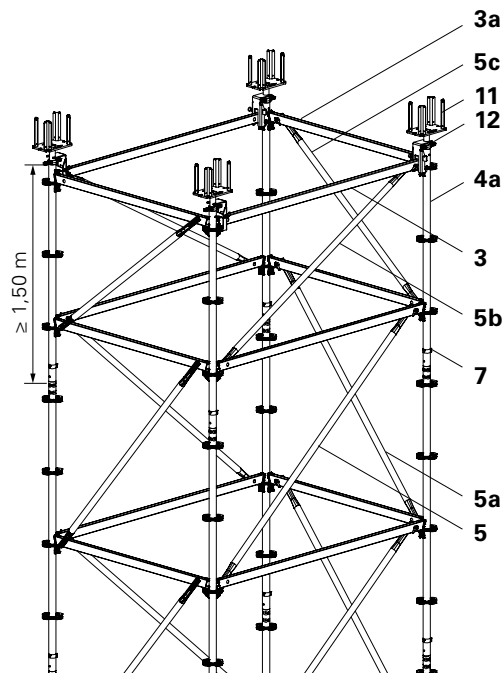

Fig. A1.06
2. Tightly connect Top Standards using Locking Pins (7).
5. Insert Cross Forkhead (11).
6. Place the Head Spindle Locking (12) at an angle on the Ledger and first insert the hooks (12.1) into the rosette holes (4.1) from below.
- (Fig. A1.06 – A1.06b)